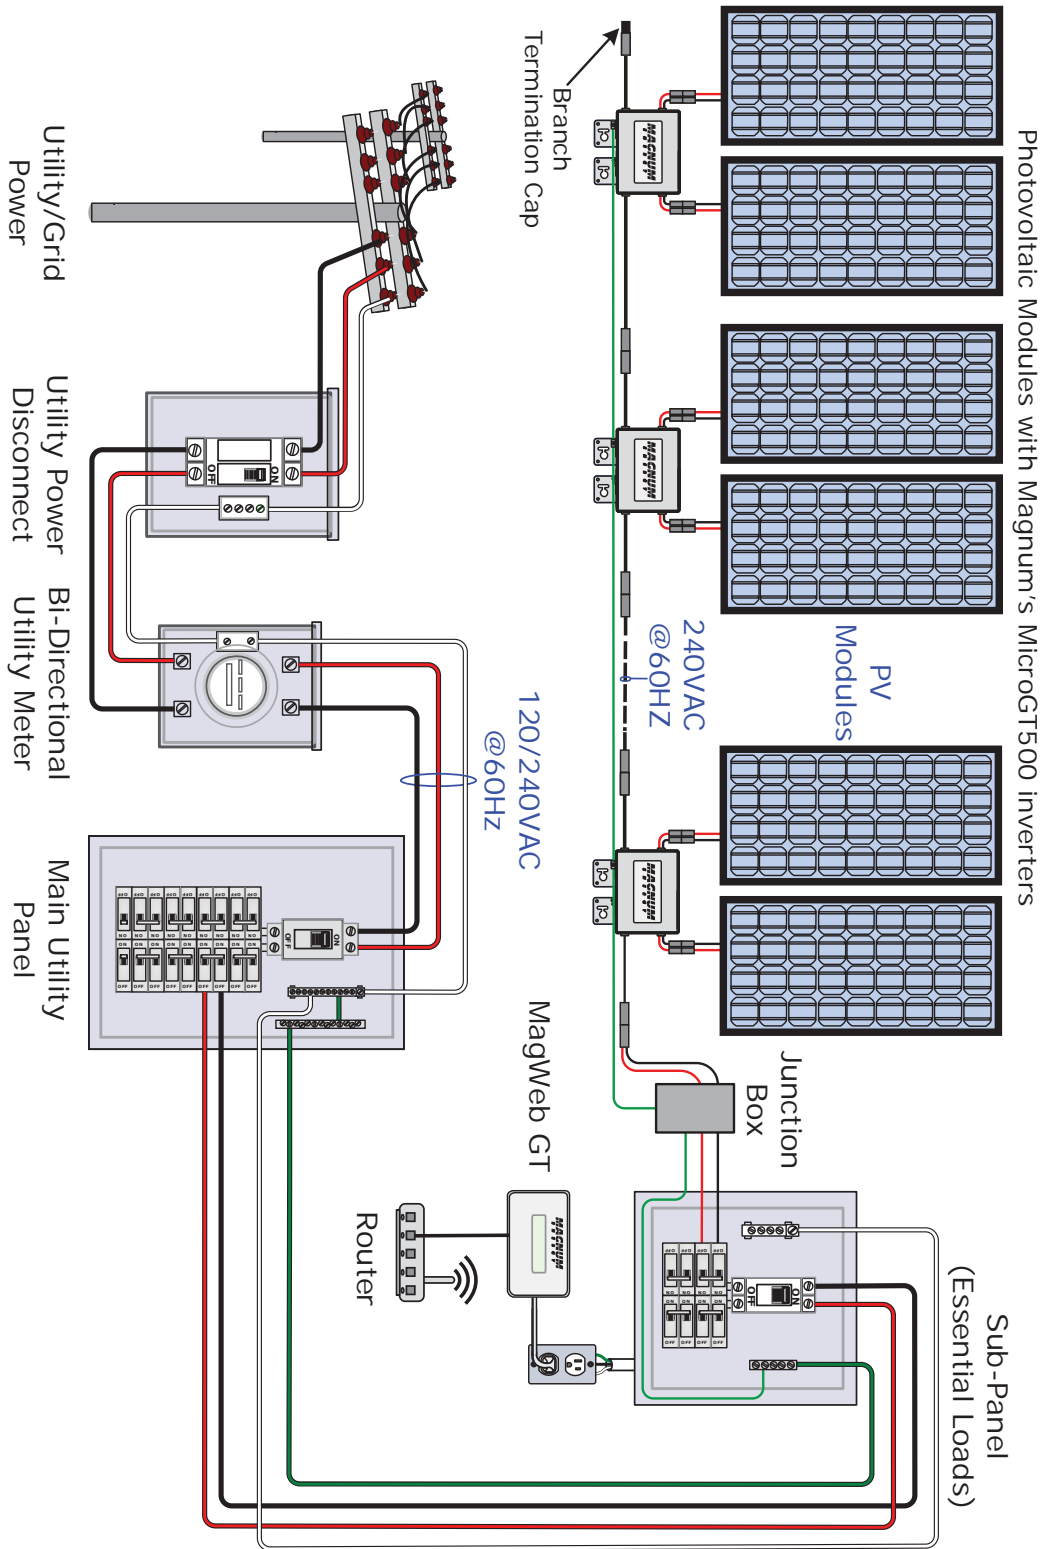

Figure 12, PV System Installation Diagram (w/ Sub-Panel)
Adding a sub-panel to your basic PV system (Figure 12) allows you to continue to power essential loads during utility outages, and it allows for an easy transition to an AC coupled system (adding a battery-based inverter system between the main and sub panels).
- a. Route the open ends of the AC connector cable and the AC branch circuit cable (from point of utility through the sub-panel per Figure 12) in to the junction box. Secure both cables using an appropriate gland/strain relief fitting.